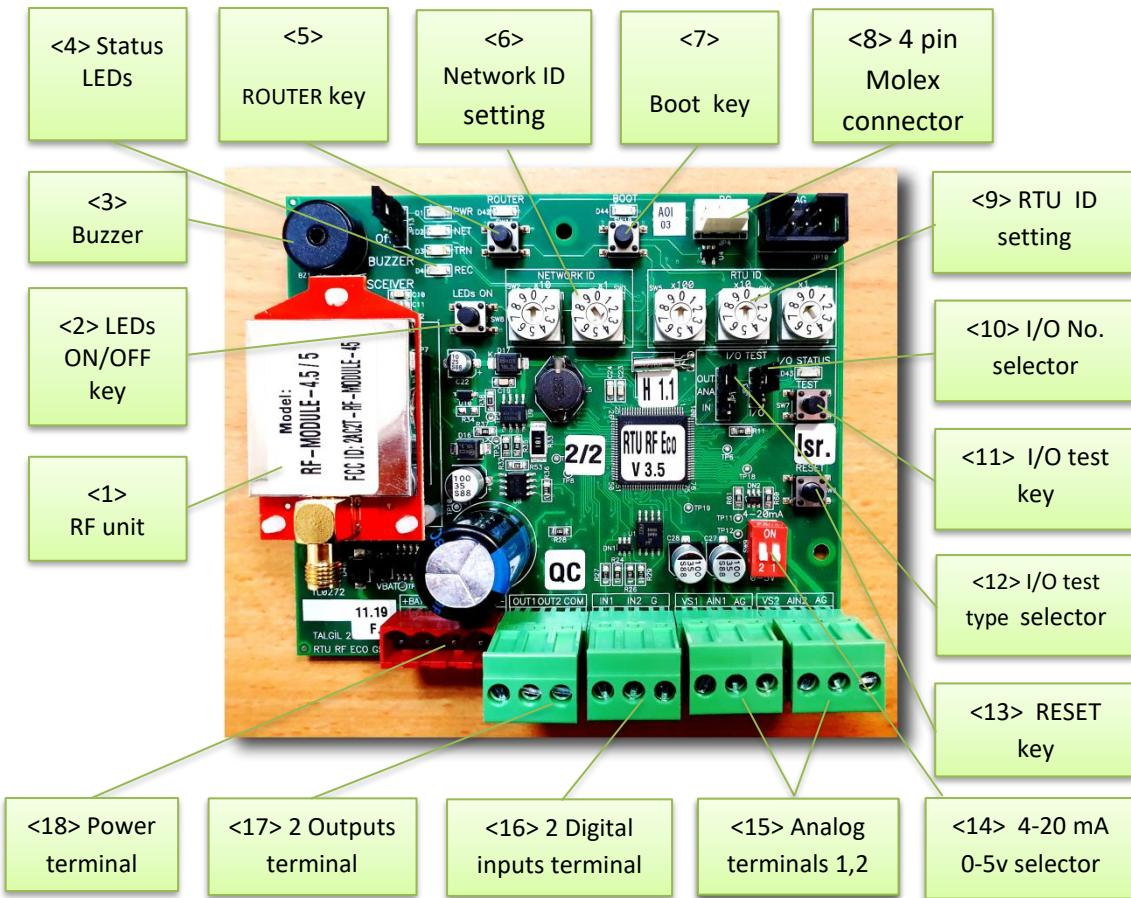

Figure 5 - ECONOMICAL RTU
1. **Setting the NETWORK ID** – Use the rotary switches (Figure 5 <6>) to set the NETWORK ID. The NETWORK ID must be the same as set at MASTER.
2. **Setting the RTU ID** – Use the rotary switches (Figure 5 <7>) to set the RTU ID as defined at the connections list of the host controller. We have to remember that there is a difference between the way the ID of the RTUs is defined in the two operation modes G5P-4 and G5P-5 as explained above. In the G5P-4 mode we allocate up to 60 RTUs to each INTERFACE as in the following table, while in the G5P-5 mode the numeration will be sequential.